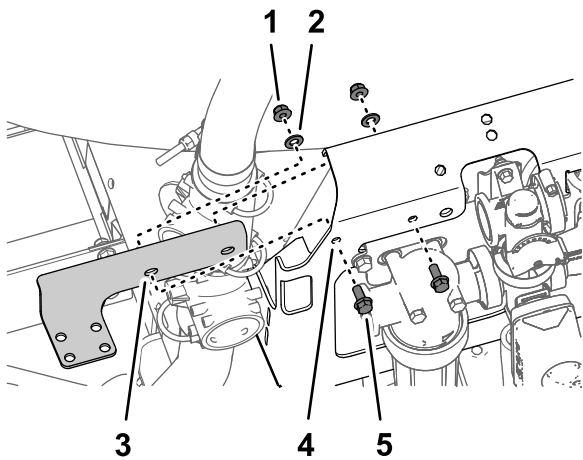

Figure 6
1. Assemble the valve mount bracket to the front of the valve support (Figure 6) with the 4 flange-head bolts (5/16 x 3/4 inch), 4 flange locknuts (5/16 inch), and 4 washers (5/16 inch).